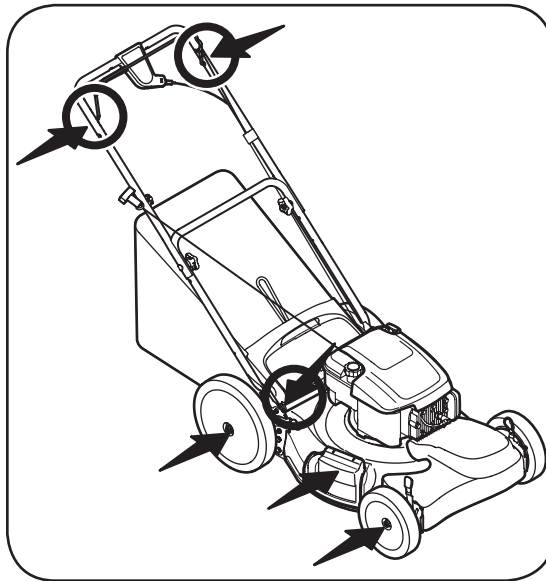

Figure 5-1
- Lubricate pivot points on the blade control at least once a season with light oil. The blade control must operate freely in both directions. See Figure 5-1.
- Lubricate the wheels at least once a season with light oil (or motor oil). If wheels are removed for any reason, lubricate surface of the pivot arm and inner surface of the wheel with light oil. See Figure 5-1.
- Lubricate the torsion spring and pivot point on the rear discharge door and side discharge chute periodically with light oil to prevent rust. See Figure 5-1.